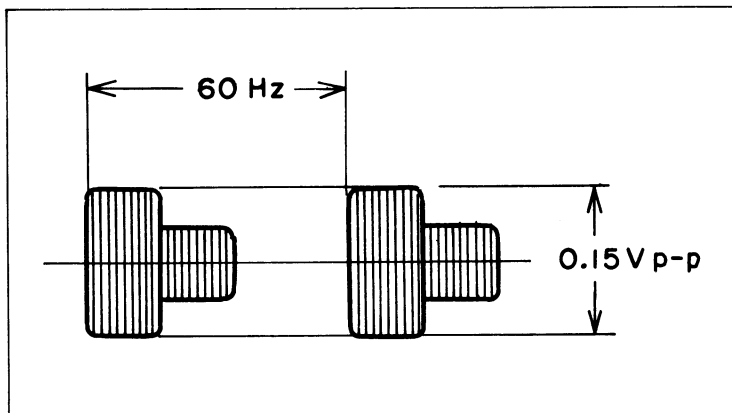

Fig. 5-23. P.B. color input level
2. Adjust R105 (P.B. Color Input Level) at that time so that the output waveform is 0.15 volt p-p, as shown in Fig. 5-23.